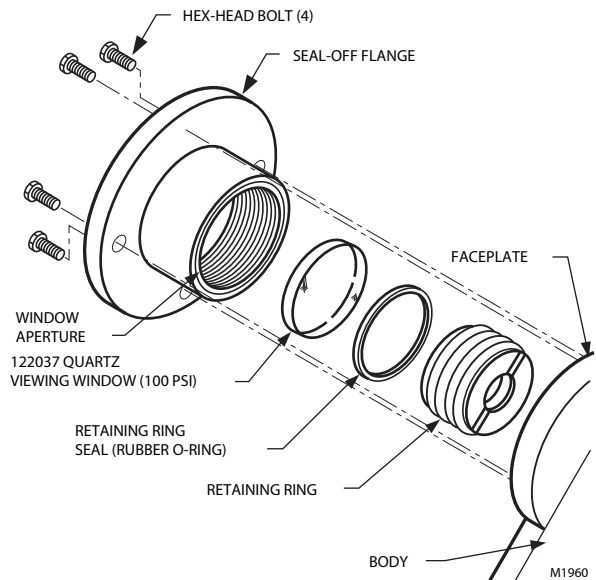

Fig. 24. Replacing quartz viewing window on C7012C,F.
1. Clean the viewing window (or focusing lens) when necessary. Remove the detector (see Troubleshooting section) and use a clean cloth over the eraser end of a pencil. Do not remove the window (or lens) to clean it. If it is broken or damaged or is coated with a substance that cannot be removed, replace it (see Fig. 24).